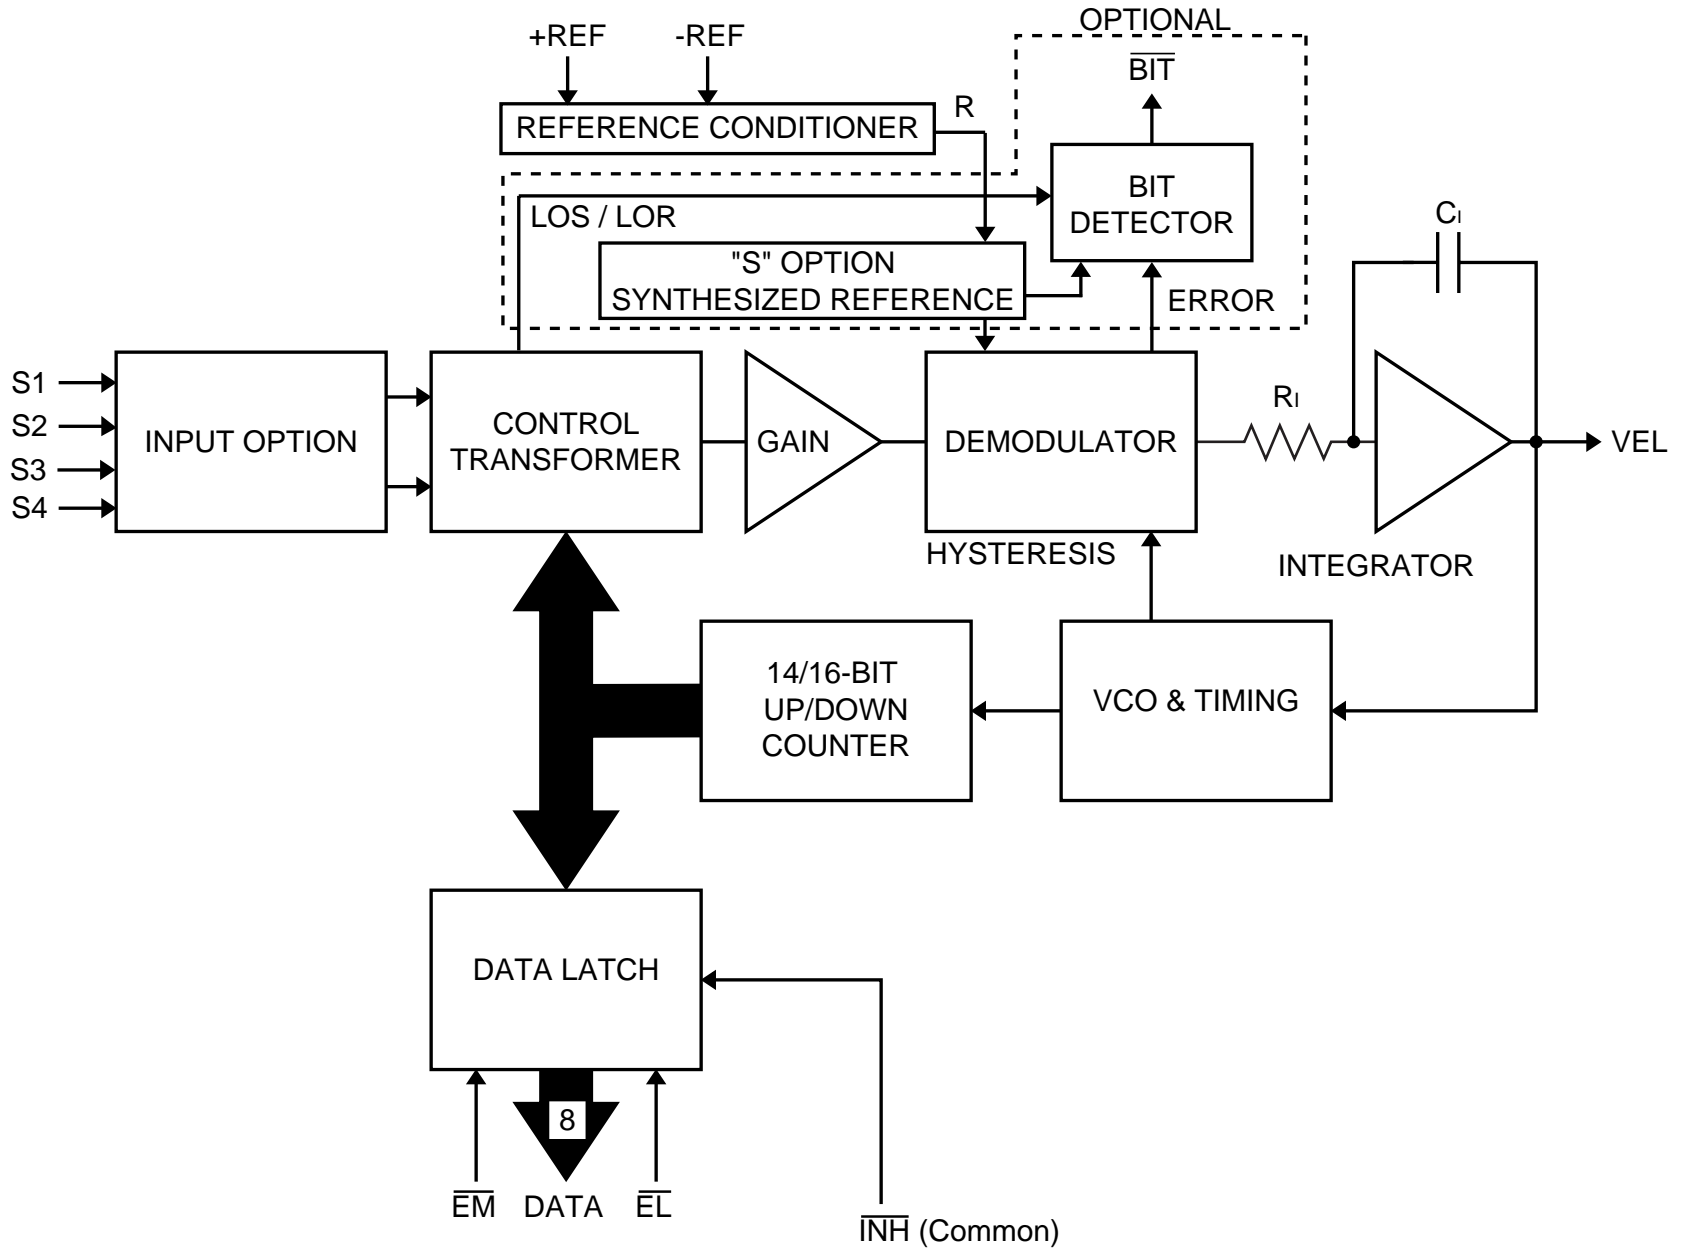

FIGURE 1. SDC-14610/15 BLOCK DIAGRAM (ONE CHANNEL)
Figure 1 is the Functional Block Diagram of the SDC-14610/15 Series. The converter operates with ±5VDC power supplies. Analog signals are referenced to analog ground, which is at ground potential. The converter is made up of three main sections; an input front-end, a converter, and a digital interface. The converter front-end differs for synchro, resolver and direct inputs. An electronic Scott-T is used for synchro inputs, a resolver conditioner for resolver inputs and a sine and cosine voltage follower for direct inputs. These amplifiers feed the high accuracy Control Transformer (CT). Its other input is the 14-bit digital angle f. Its output is an analog error angle, or difference angle, between the two inputs. The CT performs the ratiometric trigonometric computation of SINqCOSf - COSqSINf = SIN(q - f) using amplifiers, switches, logic and capacitors in precision ratios.